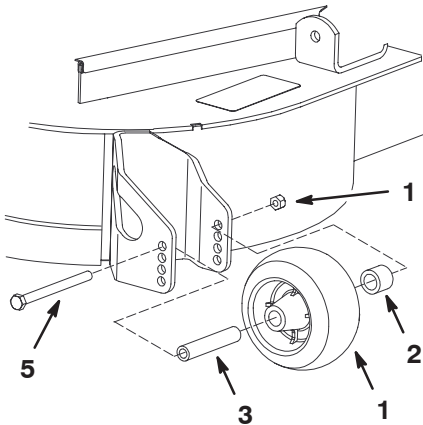

Figure 12
1. After adjusting the height-of-cut, adjust the rollers by removing the flange nut, bushing, spacer, and bolt (Fig. 12).
3. Install the flange nut, bushing, spacer, and bolt. Torque to 40–45 ft-lb (54–61 N-m) (Fig. 12).